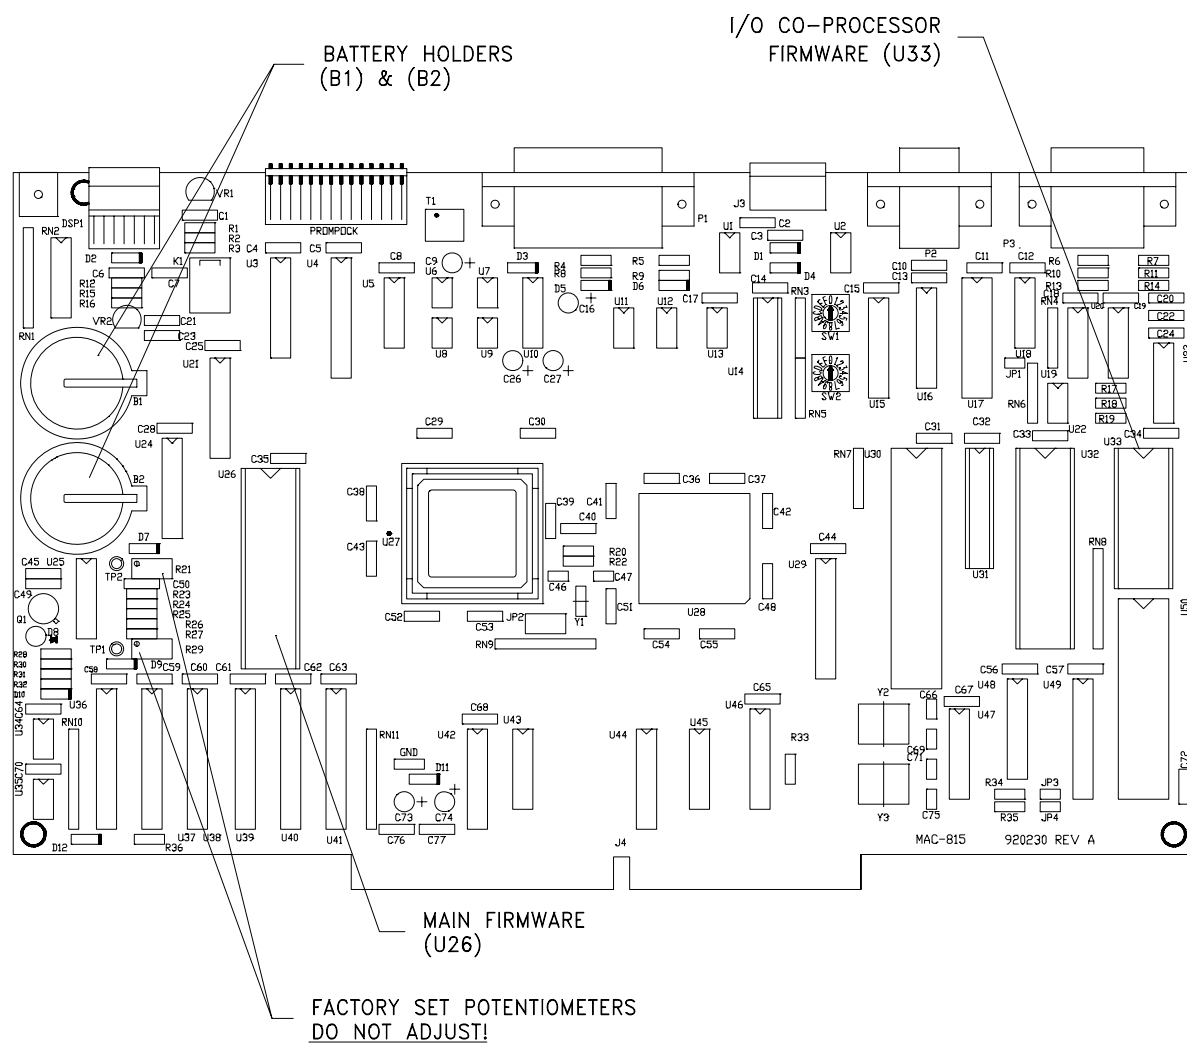

Figure 7.1 - MAC-81X Firmware and Battery locations
Components which may require replacement on the MAC-81X include the batteries and the firmware. The batteries which protect the non-volatile memory must be replaced whenever the battery voltage drops below 2.6 V. This battery is located at the upper left of the MAC-81X circuit board (refer to Figure 7.1).
1. Each firmware EPROM is located in LIF (Low Insertion-Force) sockets on the controller circuit board (refer to Figure 7.1).
When shipped, the EPROM chips will be labeled as SFO8045R for the main firmware or SFO8046R for the I/O co-processor firmware where the " " position represents a revision number. Each chip must be replaced in its proper socket. The main firmware is located in socket U26 and the I/O co-processor firmware is located in socket U33 (refer to Figure 7.1). If the wrong firmware is in the socket, a fault code will be displayed on the Status Display.